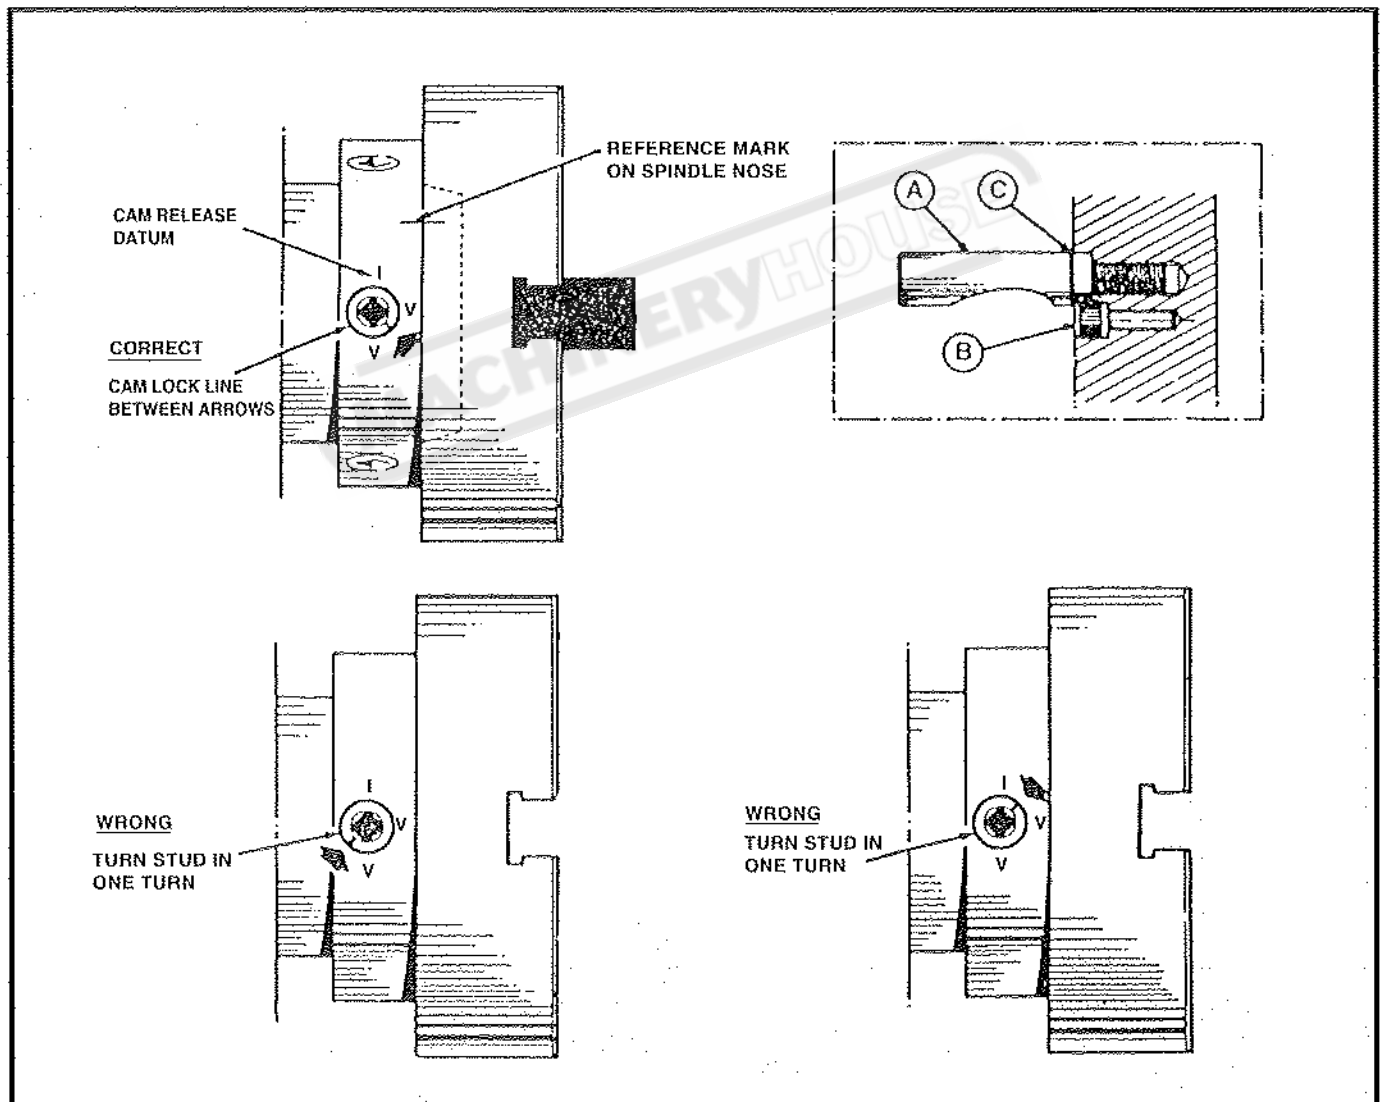

Fig. 6
When fitting chucks or faceplates, ensure that the spindle and chuck tapers are scrupulously clean and that all cams lock in the correct positions; see Fig.6. It may be necessary when mounting a new chuck to re-set the camlock studs (A). To do this, remove the cap-head locking screws (B) and set each stud so that the scribed ring (C) is flush with the rear face of the chuck-with the slot lining up with the locking screw hole (see inset, Fig.6.)